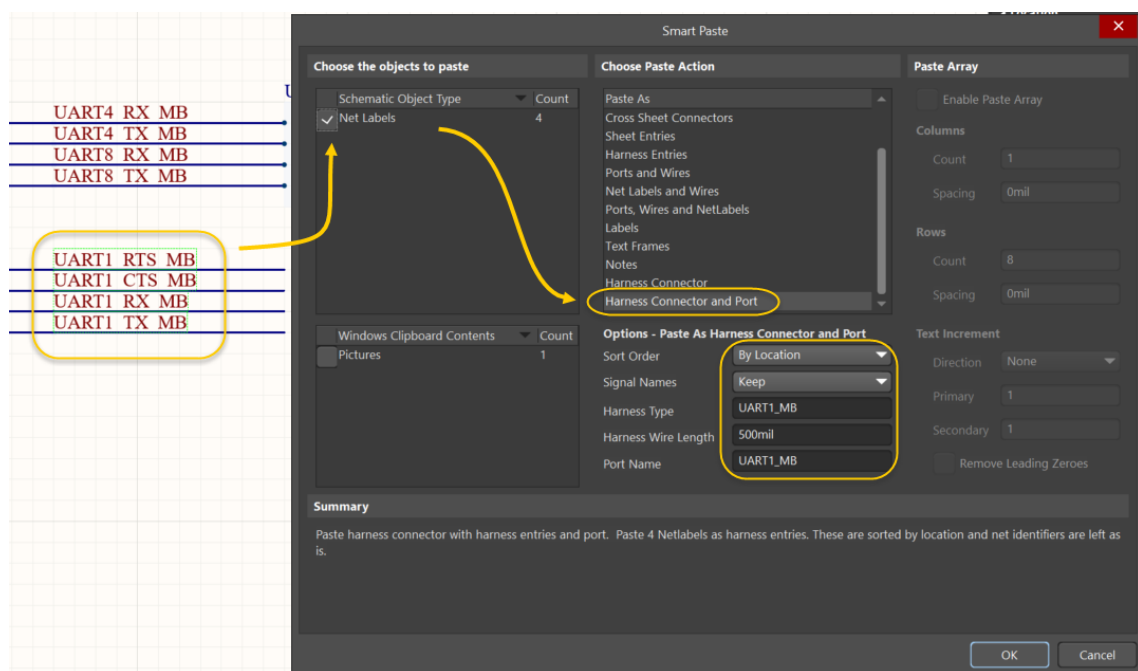

Figure 15. Harness creation based on netlabel
29. Using Figure 15 on the following page as a reference, select the following `UART1` Net Labels below component `RN3`:
32. Using Figure 15 as a reference again, change the following settings in the *Smart Paste* dialog: